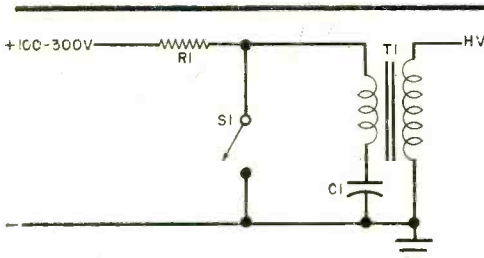

Fig. 3. When S1 is closed, C1 discharges through primary of transformer producing the high-voltage spike.
**Trigger Circuits.** The basic trigger circuit is shown in Fig. 3. When switch S1 is open, the high-voltage dc charges capacitor C1